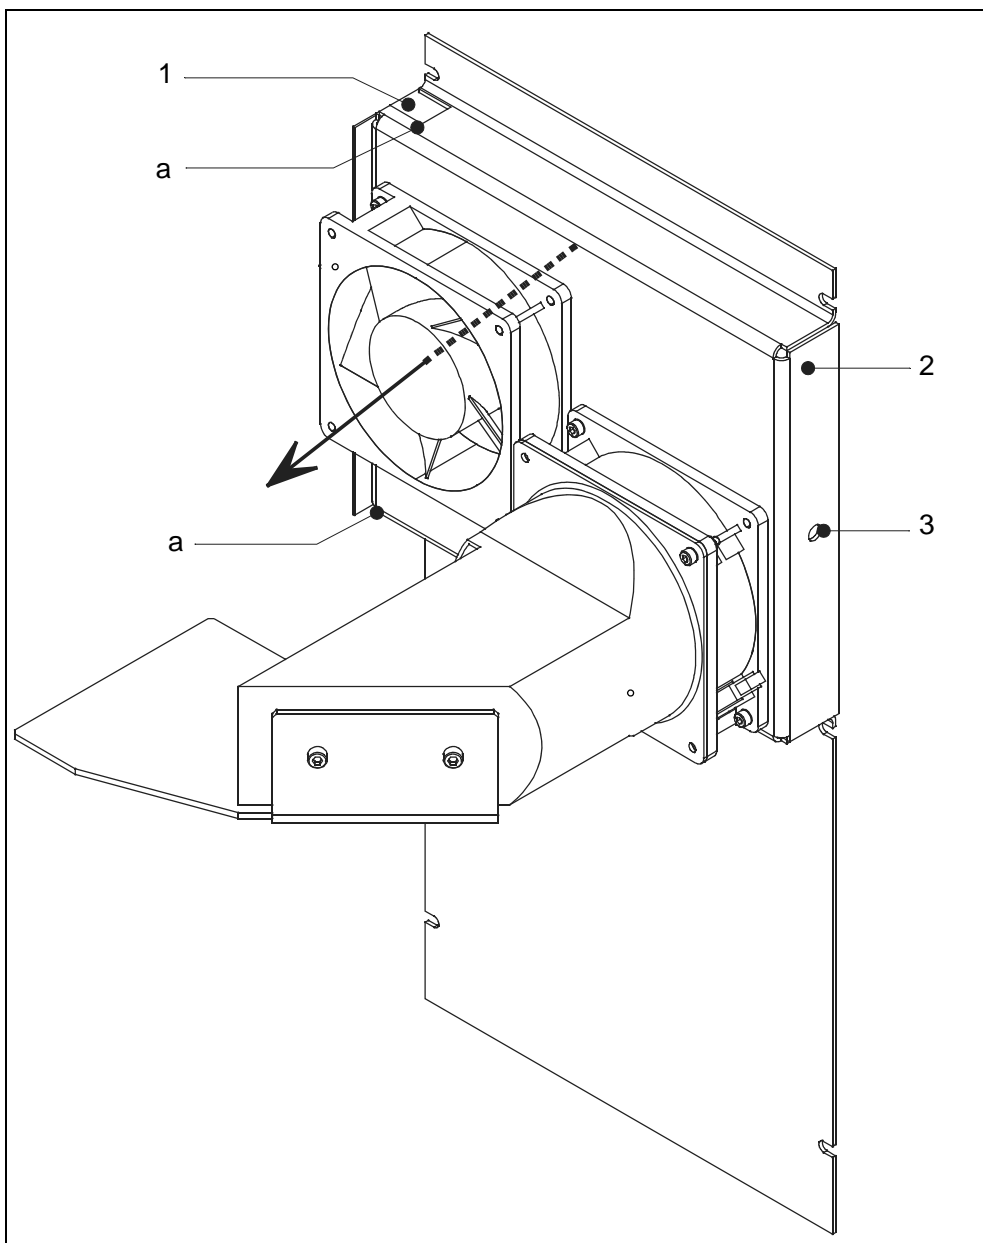

Fig. 9-2 Replace the filter cell
- Catch the filter cell by using your two fingers (Fig. 9-2/a) and pull it out of the guide plate. You can also press the filter to the front with an appropriate tool throw the ejection drilling (Fig. 9-2/3) located at the back side.
- Observe the right direction by replacing the new filter cell. The direction is indicated in Fig. 9-2 with a black arrow.